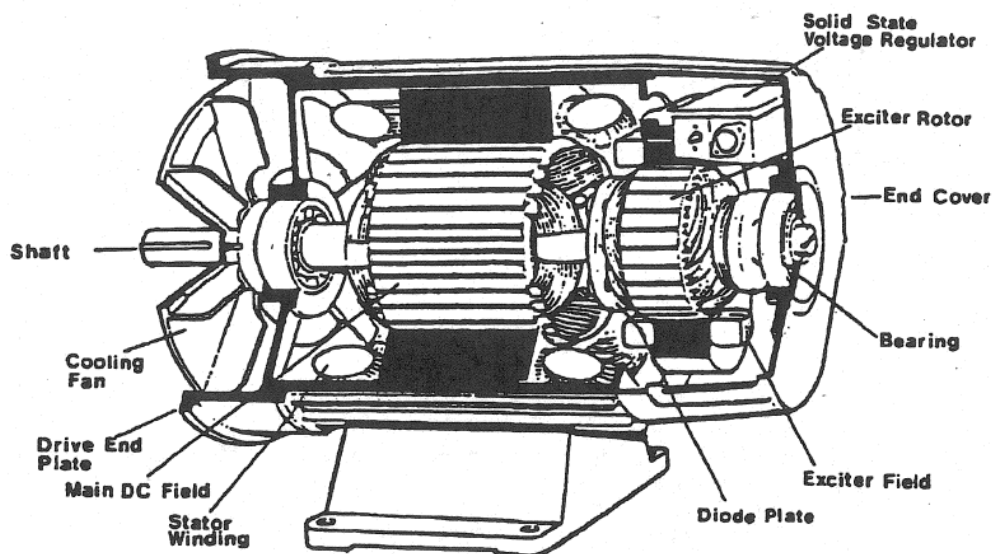

Figure 7 - Sectional view of a brushless alternator.
18. Unlike larger alternators which require slip rings and brushes to supply power to the revolving field, brushless alternators have an internal arrangement for providing d.c. for the field from within the alternator, rather than from an external source. In one type a small a.c. exciter alternator is built into the main alternator. A bridge rectifier mounted on the shaft inside the machine converts the a.c. from the internal three phase exciter to d.c. to supply the revolving field. A sectional view of one type of brushless alternator is shown in Figure 7.